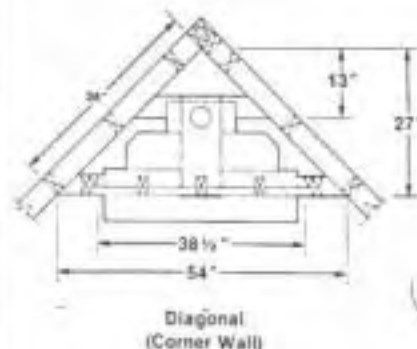

Figure 2
Step 1: Frame fireplace enclosure as illustrated in Figures 2,4,5, or 6.